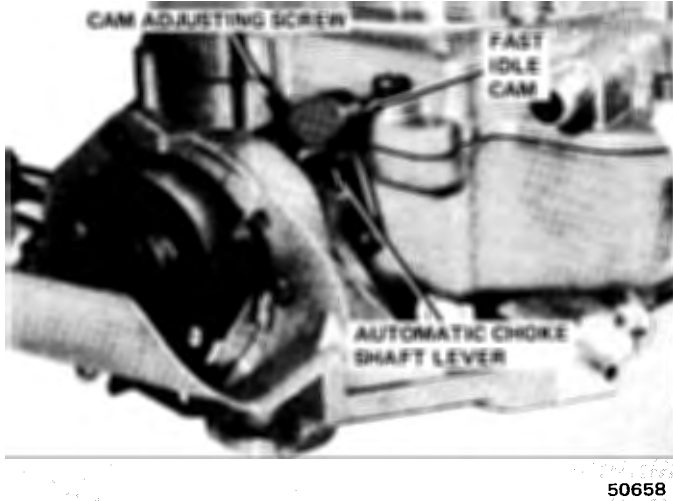

Fig. 4-80 Indexing Choke Plate
(1) Loosen choke lever attaching screw (turn clockwise). Pry lever off choke shaft far enough to allow choke valve to turn.
(2) Back out cam index adjusting screw until screw no longer touches automatic choke shaft lever (fig. 4-80).
(3) Loosen choke cover attaching screws and rotate cover 90 degrees counterclockwise so that automatic choke shaft lever touches fast idle cam. Tighten one choke cover attaching screw.
(4) Turn cam index screw until it just touches the automatic choke shaft lever and then turn an additional 6 to 7 turns.
(5) Manually close choke plate and tighten choke shaft lever attaching screw.
(6) Adjust initial choke valve clearance and fast idle cam linkage.
(7) Set choke cover to specified setting and tighten attaching screws.